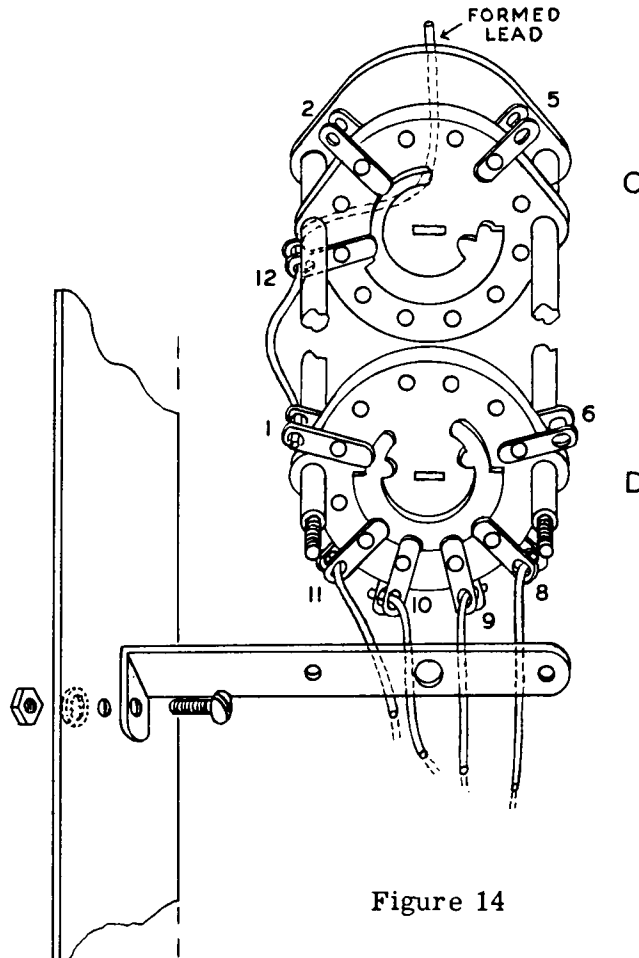
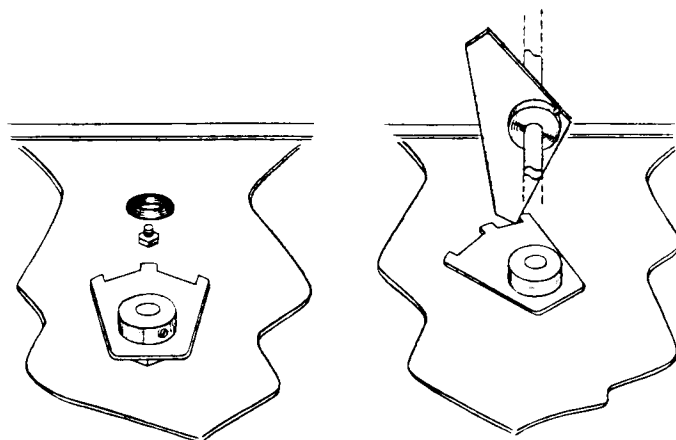

Figure 14
Figure 16
- () The bandswitch consists of two main sections. The front section has one wafer and the back section has two wafers. Select the back section and refer to Figure 14 and Pictorial 8 to identify the terminals.
- () Insert a large bare wire through both contacts of terminal 12C and bring the end over to 1D. Arrange the wire to clear the switch post and shape the wire with pliers so as not to put undue strain on the switch terminals. Solder both pair of terminals and leave 1 3/4" of wire extending from terminal 12C. Form the wire as shown in Figure 14.
- () Use a screwdriver to position the switch rotors as shown in Figure 14. Note the position and shape of the rotor blades. Rotate both switch rotors to the exact position shown so that the back section of the switch will be properly oriented with respect to the front section to be installed later.
- () Move the entire switch into position as shown in Figure 14, taking care to guide the single #14 wire protruding from the front of the switch into the solder lug on the feed-through insulator near the driver shield plate. Use 6-32 hardware to fasten the switch mounting foot to the hole near the center on the side of the 6146 sub-chassis. Do not tighten the mounting screw on the foot at this time.
- () Bend the bottom tank coil tap protruding through the chassis approximately 1/2" to the right, keeping it centered in the chassis hole and connect the heavy wire from terminal 9D to it (NS).
- () Leave the center coil tap straight out from the chassis and connect the wire from terminal 10D to it (NS).
- () Bend the top coil tap approximately 1/2" to the left, keeping it centered in the chassis hole and connect the wire from switch terminal 11D to it (NS). These connections will not be soldered until after the switch mounting foot has been tightened.
- () The long wire from terminal 8D should be run clear of the other taps and connected to the rear feed-through insulator solder lug (NS).
- () Select the VFO switch driven plate (see Figure 16 on Page 41) and insert a 1/4" x 8-32 set screw in the hub. With the hub toward you and the VFO switch in the center position, slip the hub onto the switch shaft and aim the center plate projection directly toward the 3/8" grommet near front center on the chassis. The driven plate should be spaced 1/4" away from the chassis surface. Tighten the set screw by inserting the screwdriver through the 3/8" hole in the right center chassis brace.
- () Set the driver plate on the bandswitch shaft as shown in Figure 16. Some experimentation may be required to obtain optimum position for the driver plate. Note that with both switches fully counterclockwise, both VFO and transmitter stages are in the 160 meter position. As the bandswitch is moved to the 80 meter position, it should just clear the center projection of the VFO switch and engage the right hand projection on the VFO plate without moving the VFO switch. As the bandswitch is moved to 40 meters, the VFO switch should move one position. Switch through 40 meters, 20 meters, 15 meters and 10 meters with the bandswitch. The plate should clear the right hand projection and engage the middle projection at the 10 meter position without moving the VFO switch. Switching to 11 meters with the bandswitch should move the VFO switch one more position. When switching from 11 meters back to 160 meters, the device should operate smoothly in the reverse order.